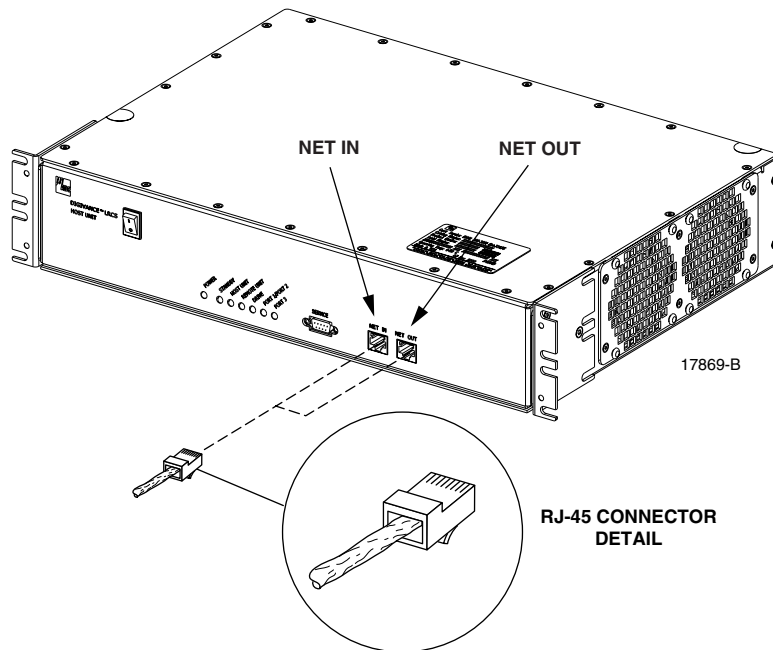

Figure 3-9. Controller Area Network Connections
1. Connect one end of the CAN interface cable (accessory) to either the NET IN or NET OUT port on HU #1 as shown in Figure 3-9.